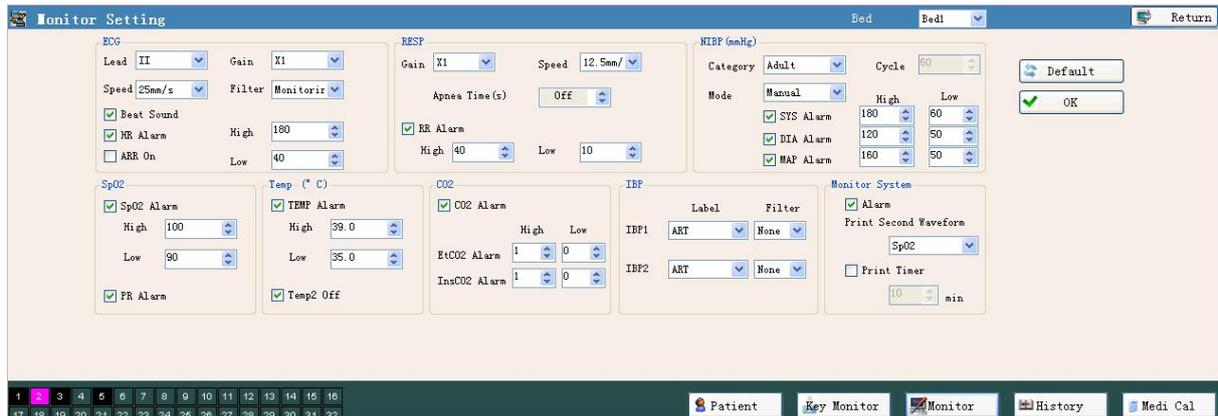

Figure 5.6A (Bedside) Monitor setting----for the communication protocol earlier than V2.5
1) When the version of communication protocol between central server and bedside monitor is selected as V2.5 or lower version, then the monitor setting window is as shown in figure 5.6A.